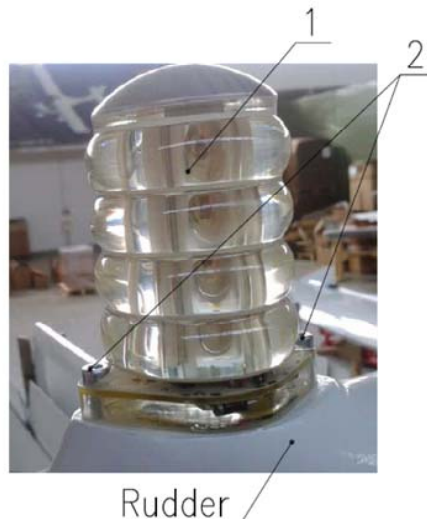

Fig. 33-40-11
1	Using hex-head screwdriver 3mm unscrew bolts item 2 that hold the anti collision light (Fig. 33-40-11).
4	Install anti collision light in correct position. Using hex-head screwdriver 3mm screw bolts item 2 that hold the position light (Fig. 33-40-11).